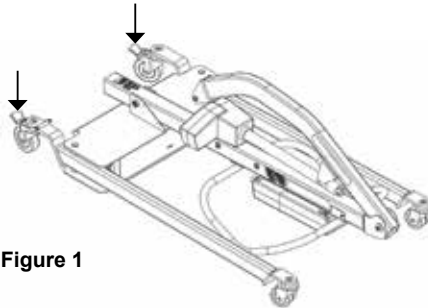

Figure 1
1. Place the chassis in a clear space and apply the rear brakes (Figure 1).